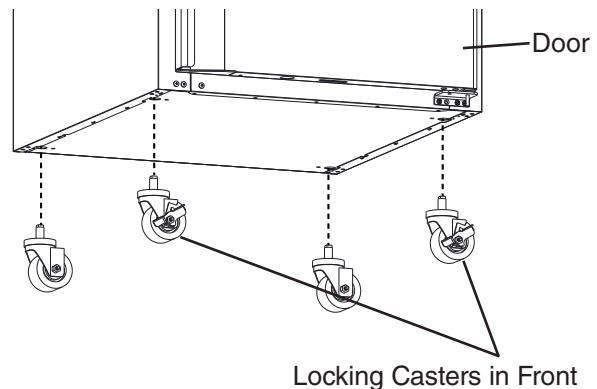

Fig. 1
- 3) Attach the casters to the bottom of the unit. Locking casters should be attached to the front of the unit. See Fig. 1.